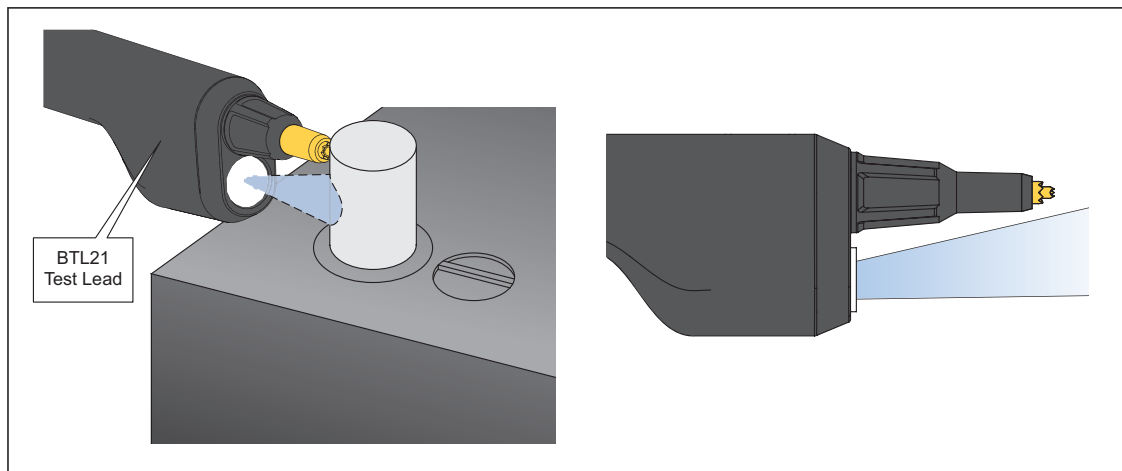

Figure 4-5. Measure the Temperature of a Battery Pole
2. Adjust the emission angle (approximately 10 degrees) to let the flare cover the battery pole. See Figure 4-5.